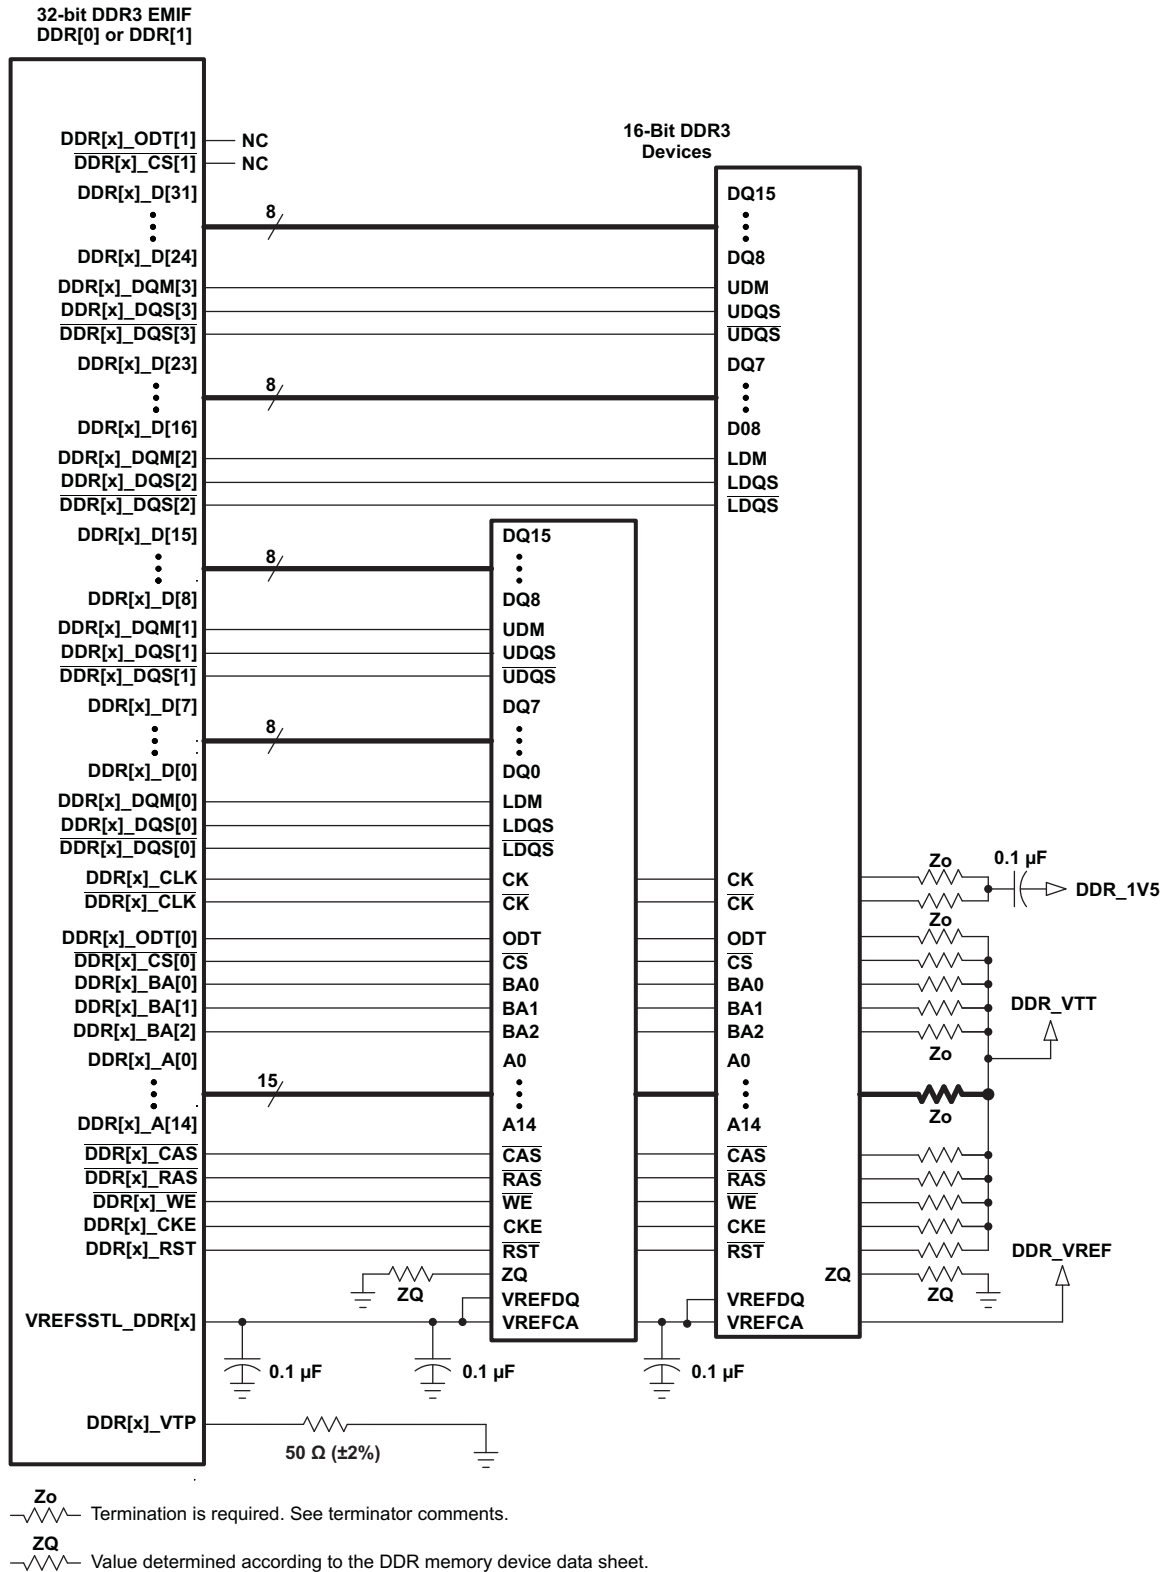
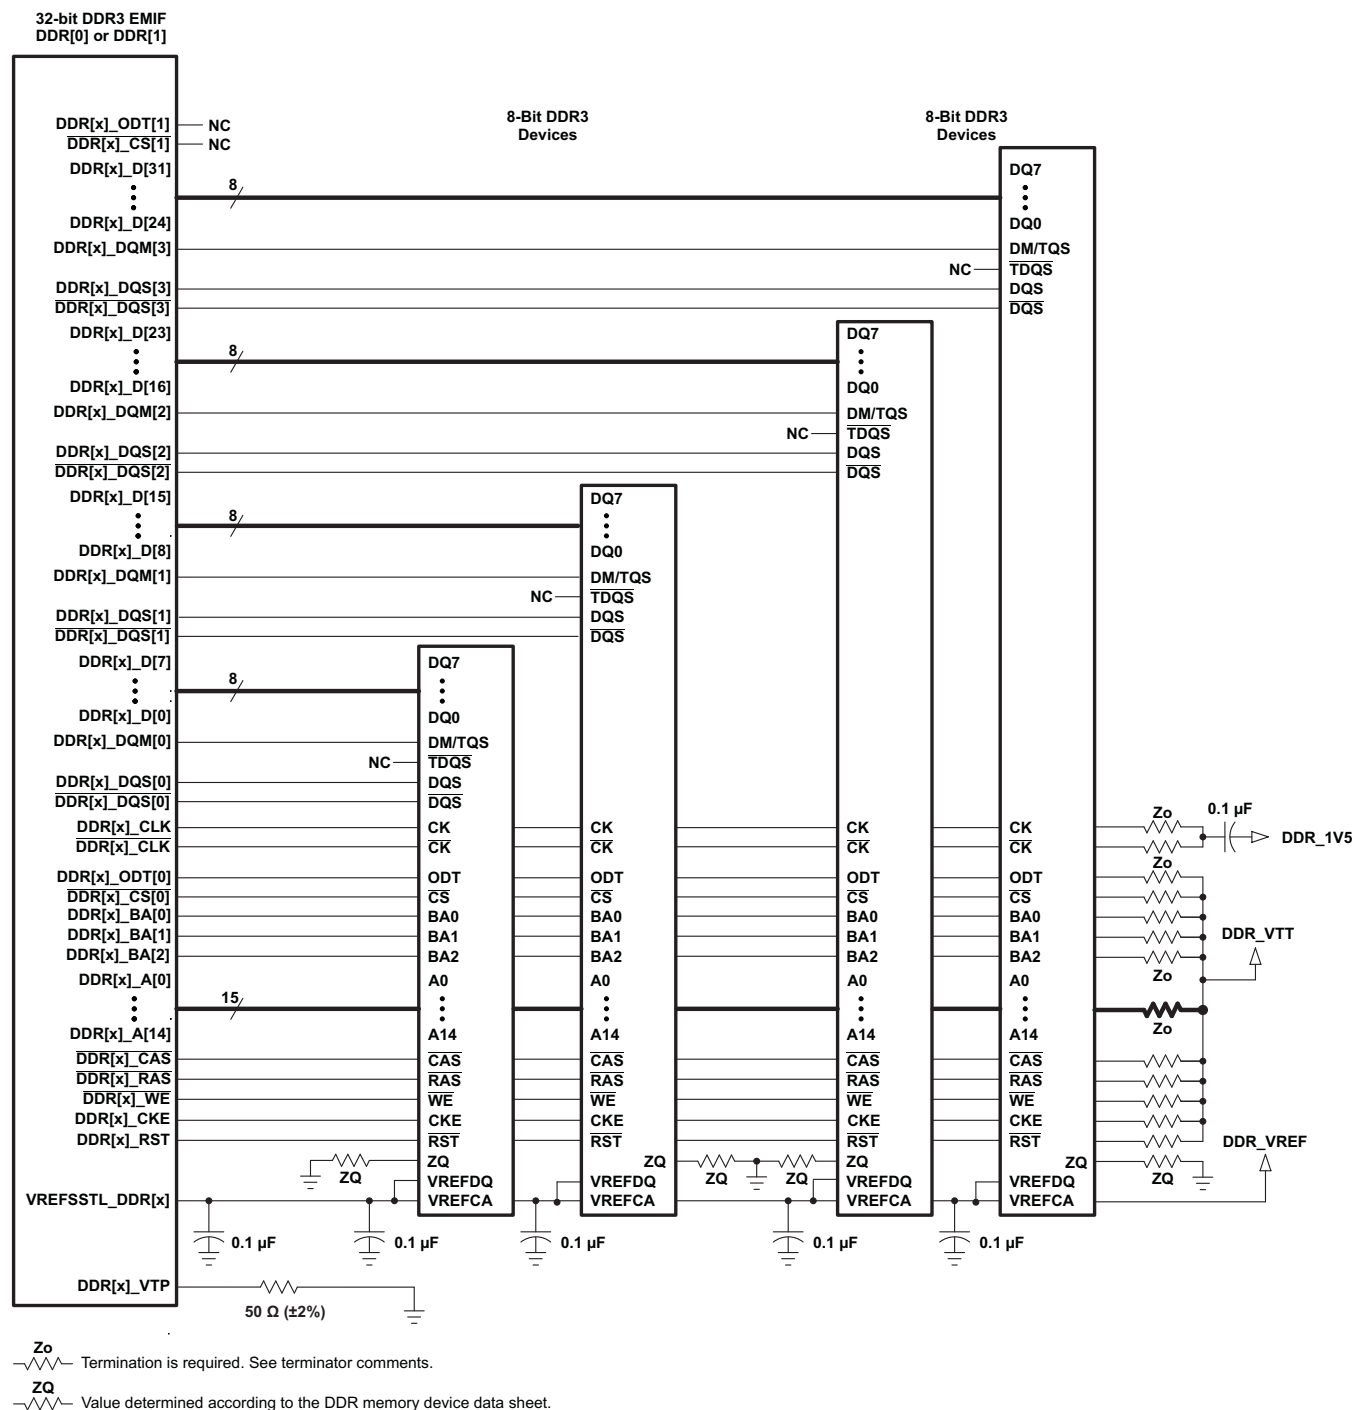

Figure 8-56. 32-Bit, One-Bank DDR3 Interface Schematic Using Two 16-Bit DDR3 Devices
Figure 8-57. 32-Bit, One-Bank DDR3 Interface Schematic Using Four 8-Bit DDR3 Devices
The DDR3 interface schematic varies, depending upon the width of the DDR3 devices used and the width of the bus used (16 or 32 bits). General connectivity is straightforward and very similar. 16-bit DDR devices look like two 8-bit devices. Figure 8-56 and Figure 8-57 show the schematic connections for 32-bit interfaces using x16 devices.
Note that the 16-bit wide interface schematic is practically identical to the 32-bit interface (see Figure 8-56 and Figure 8-57); only the high-word DDR memories are removed and the unused DQS inputs are tied off. The processor DDR[x]_DQS[2] and DDR[x]_DQS[3] pins should be pulled to the DDR supply via 1-k Ω resistors. Similarly, the $\overline{\text{DDR}}[\text{x}]_{\text{DQS}}[2]$ and $\overline{\text{DDR}}[\text{x}]_{\text{DQS}}[3]$ pins should be pulled to ground via 1-k Ω resistors.
(1) DDR3 speed grade depends on desired clock rate. Data rate is 2x the clock rate. For DDR3-800, the clock rate is 400 MHz.
(2) DDR3 devices with speed grades up to DDR3-1600 are supported; however, max clock rate will still be limited to 400 MHz as stated in Table 8-61 *Switching Characteristics Over Recommended Operating Conditions for DDR3 Memory Controller*.
(3) For valid DDR3 device configurations and device counts, see Section 8.13.1.2.3, Figure 8-56, and Figure 8-57.